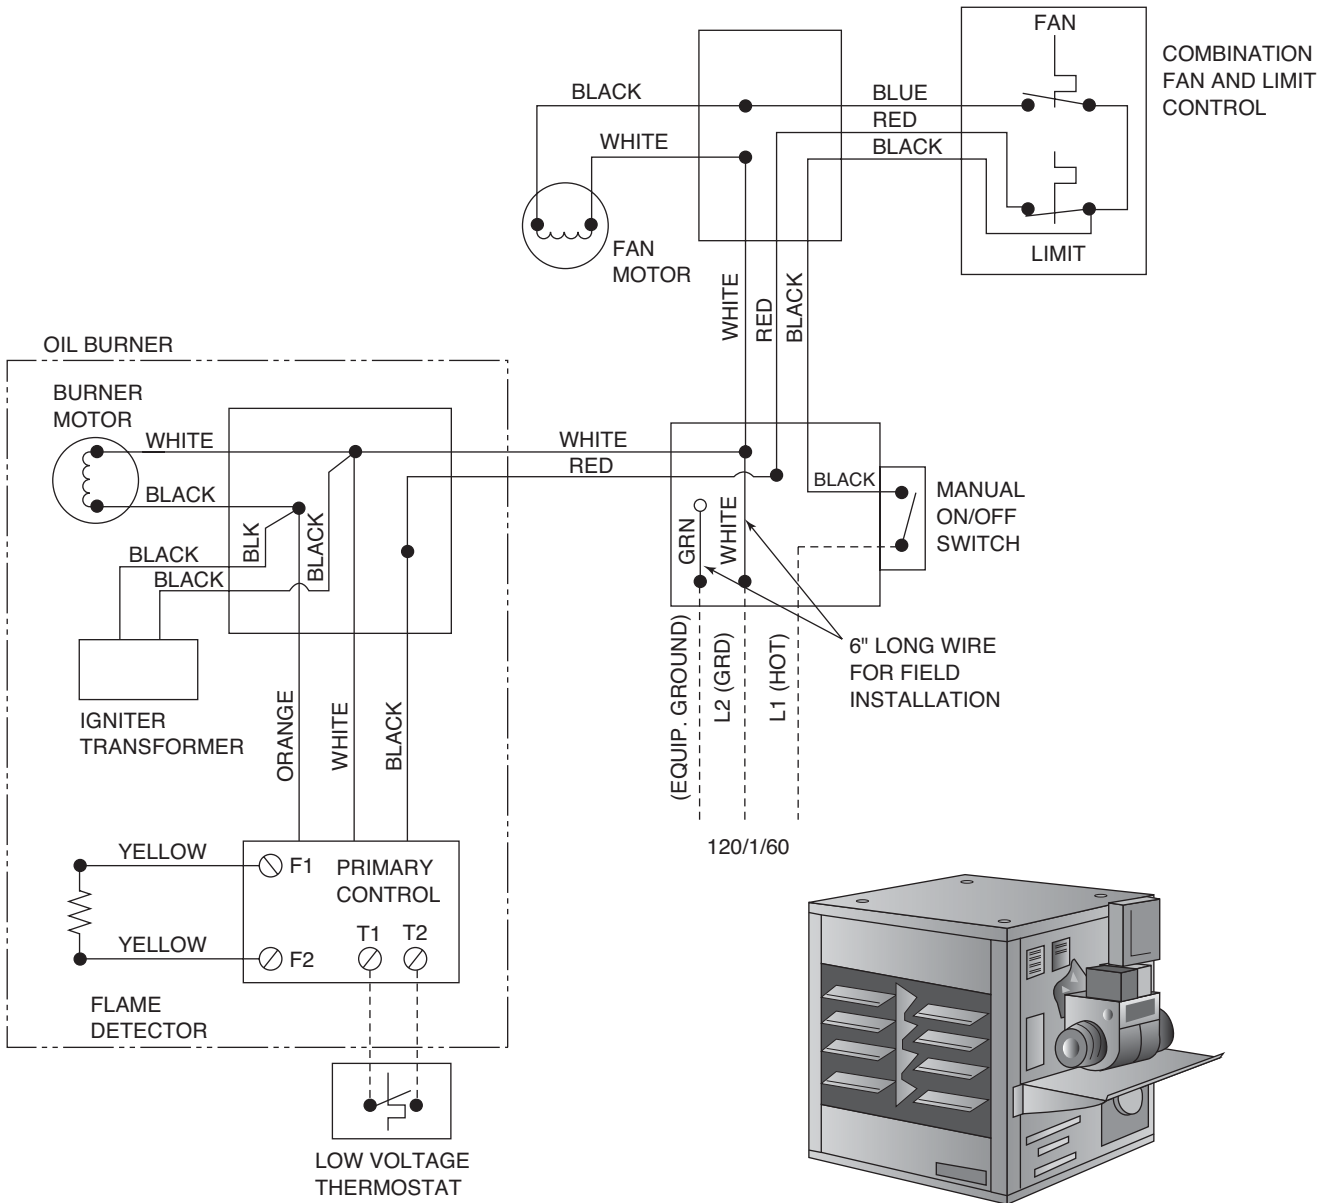

FIGURE 24-5 Oil-fired unit heater.
1. Redraw the diagrams in Figures 24-5 and 24-6 as ladder diagrams.
1. Referring to Figure 24-5, will the burning motor operate when the FAN switch is open?
2. Referring to Figure 24-5, what complaint might you get from a customer if the fan relay contacts should become welded in the closed position?
4. If the limit in Figure 24-5, were to open, what voltage would you measure between the black and white wires of the primary control?
5. In Figure 24-5, if the limit switch is open, will the burner motor operate?
6. In Figure 24-5, if the limit switch is open and the fan switch is closed, will the fan motor operate?